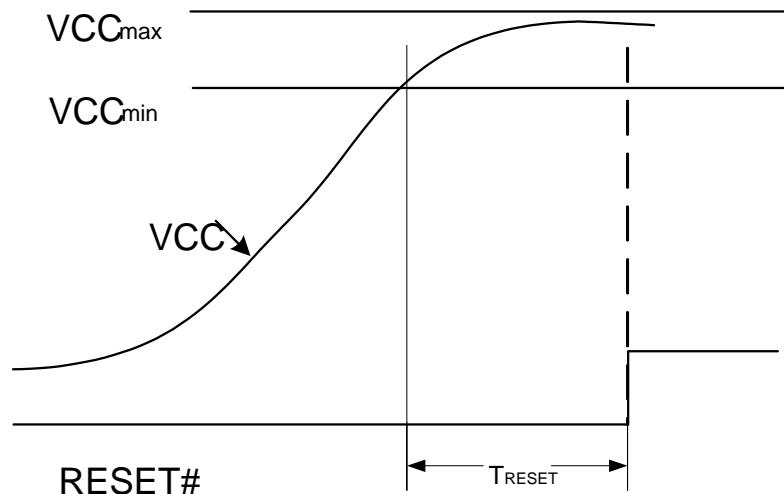
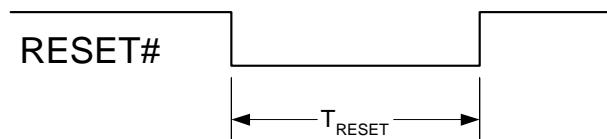

Figure 4.5. Conditions for Use of RESET#
Figure 4.6. RESET# Minimum Timing
1. Reset on RESET# signal can be LOW as the supply becomes stable (shown in Figure 4.5), or pulled LOW for at least T_{RESET} (shown in Figure 4.6).
VCC must be stable between the limits shown in the Normal Operating Conditions section on page 18 for T_{RESET} before RESET# goes HIGH, as shown in Figure 4.5. Before accessing registers, RESET# must be pulled LOW for T_{RESET} . This can be done by holding RESET# LOW until T_{RESET} after stable power, or by pulling RESET# LOW from a HIGH state for at least T_{RESET} , as shown in Figure 4.6. Note: VCC can be one of RnPPWR5V or SBVCC5V.